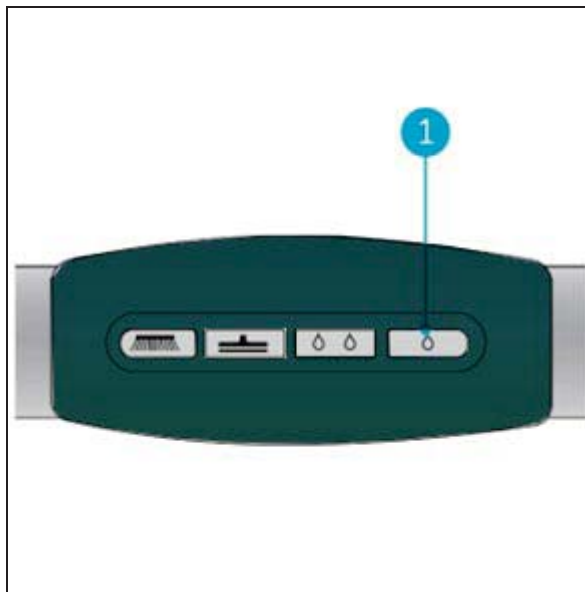

Figure 19
1. Turn on the ECO mode by pushing the ECO button (Figure 19, pos 1).
3. To start normal cleaning mode push button (Figure 19,pos2)